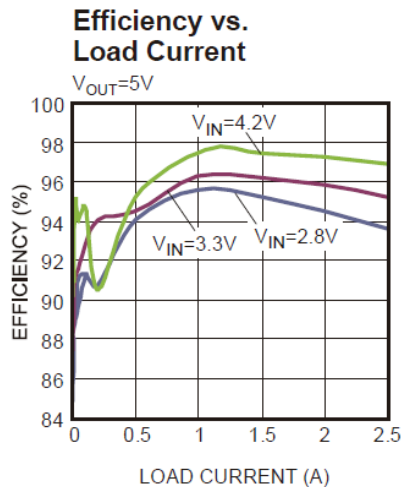

Figure 3: Efficiency Curve of the MP3422
For Equation (2), approximate the efficiency of the converter based on existing efficiency curves in the datasheet. There is no exact efficiency curve for 2.5 to 5V_{IN}, but based on the graph shown in Figure 3, an efficiency of about 92% can be assumed.